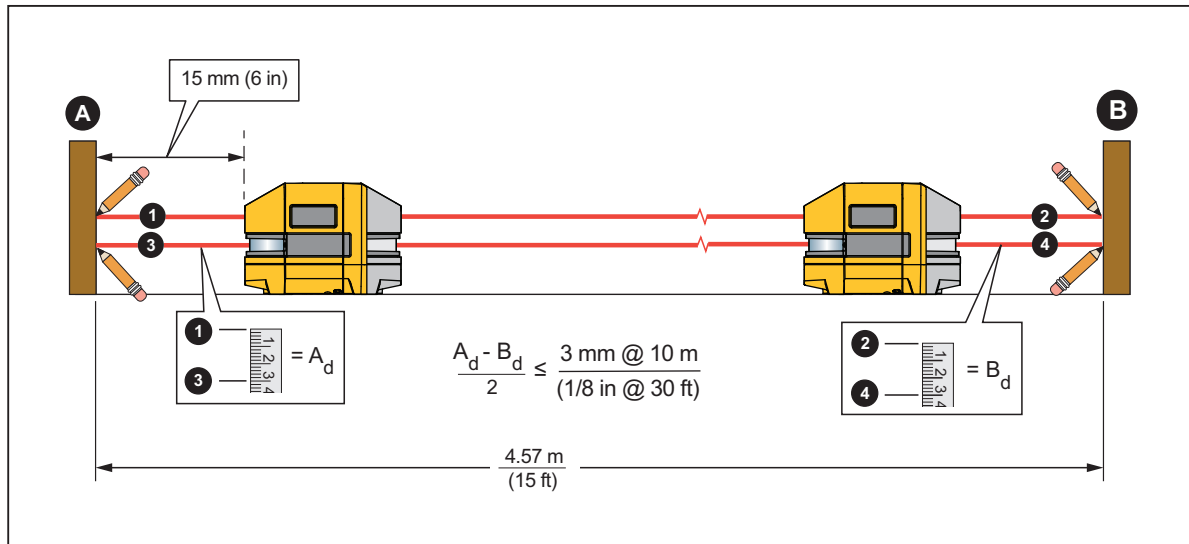

Figure 8. Horizontal Laser Accuracy
1. Find a horizontal site that is almost level that is ≥ 4.57 m (15 ft) wide with two opposing walls to use as targets. You can also use scrap wood as targets. See Figure 8.